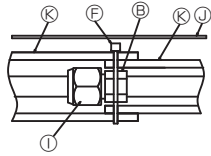

Fig. 3-15
- (2) Wrap the covers of the connection pipes, and secure them at band (F).
- (3) Attach insulation (J) so that it covers the cut parts of the connection pipes. (Fig. 3-15)